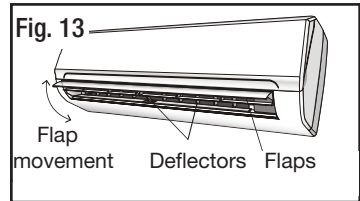

Fig. 13
- The deflectors under the flaps can be adjusted manually to direct the airflow in a right or left direction (Fig. 13).